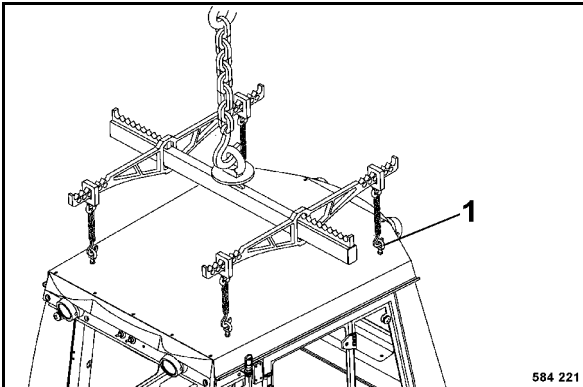

Fig. 201
- Fasten the lifting gear to the four lifting eyes 1 (Fig. 201).